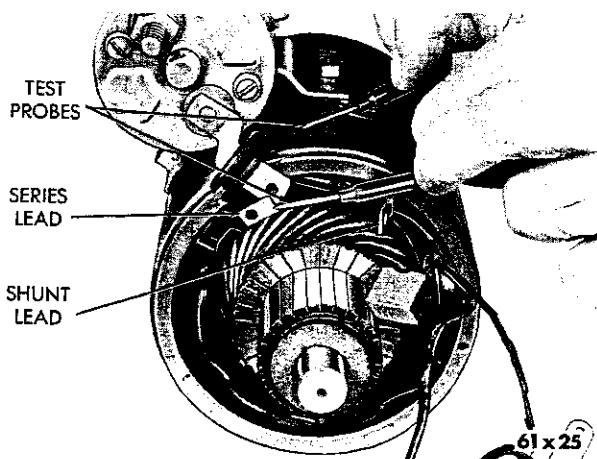

Fig. 15—Testing Series Coil for Ground
(5) Touch one probe of the test lamp to the series field coil lead and the other probe to the field frame (Fig. 15). The lamp should not light.